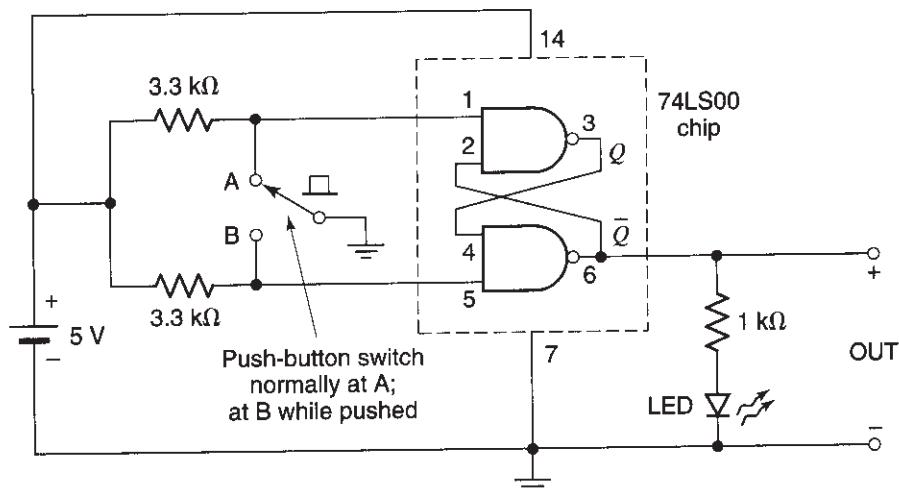

Fig. 3
- 3. DEBOUNCED CLOCK switch circuit:** Voltages generated by throwing switches that can bounce can be “cleaned,” or “debounced,” by using an SR latch, as shown in Fig. 3. This circuit is similar to one used in Experiment 14, and can be understood through that material. The switch is normally at A, making the voltage there 0 and the voltage at B high. When the switch is pressed, it momentarily touches B and then bounces. The first of the down transitions in the voltage at B sets the flip-flop, and further ups and downs in that output do not change the flip-flop’s state. Similarly, when the switch is released, it touches A and then bounces; the first of the down transitions of the voltage at A resets the flip-flop. Thus, the output voltage of the circuit is a clean 1 or 0 and is oblivious to switch bouncing. This voltage can be used to drive other digital circuits. To conclude, then, the output of this circuit is normally 0 and becomes “clean” 1 for as long as the switch is pressed.